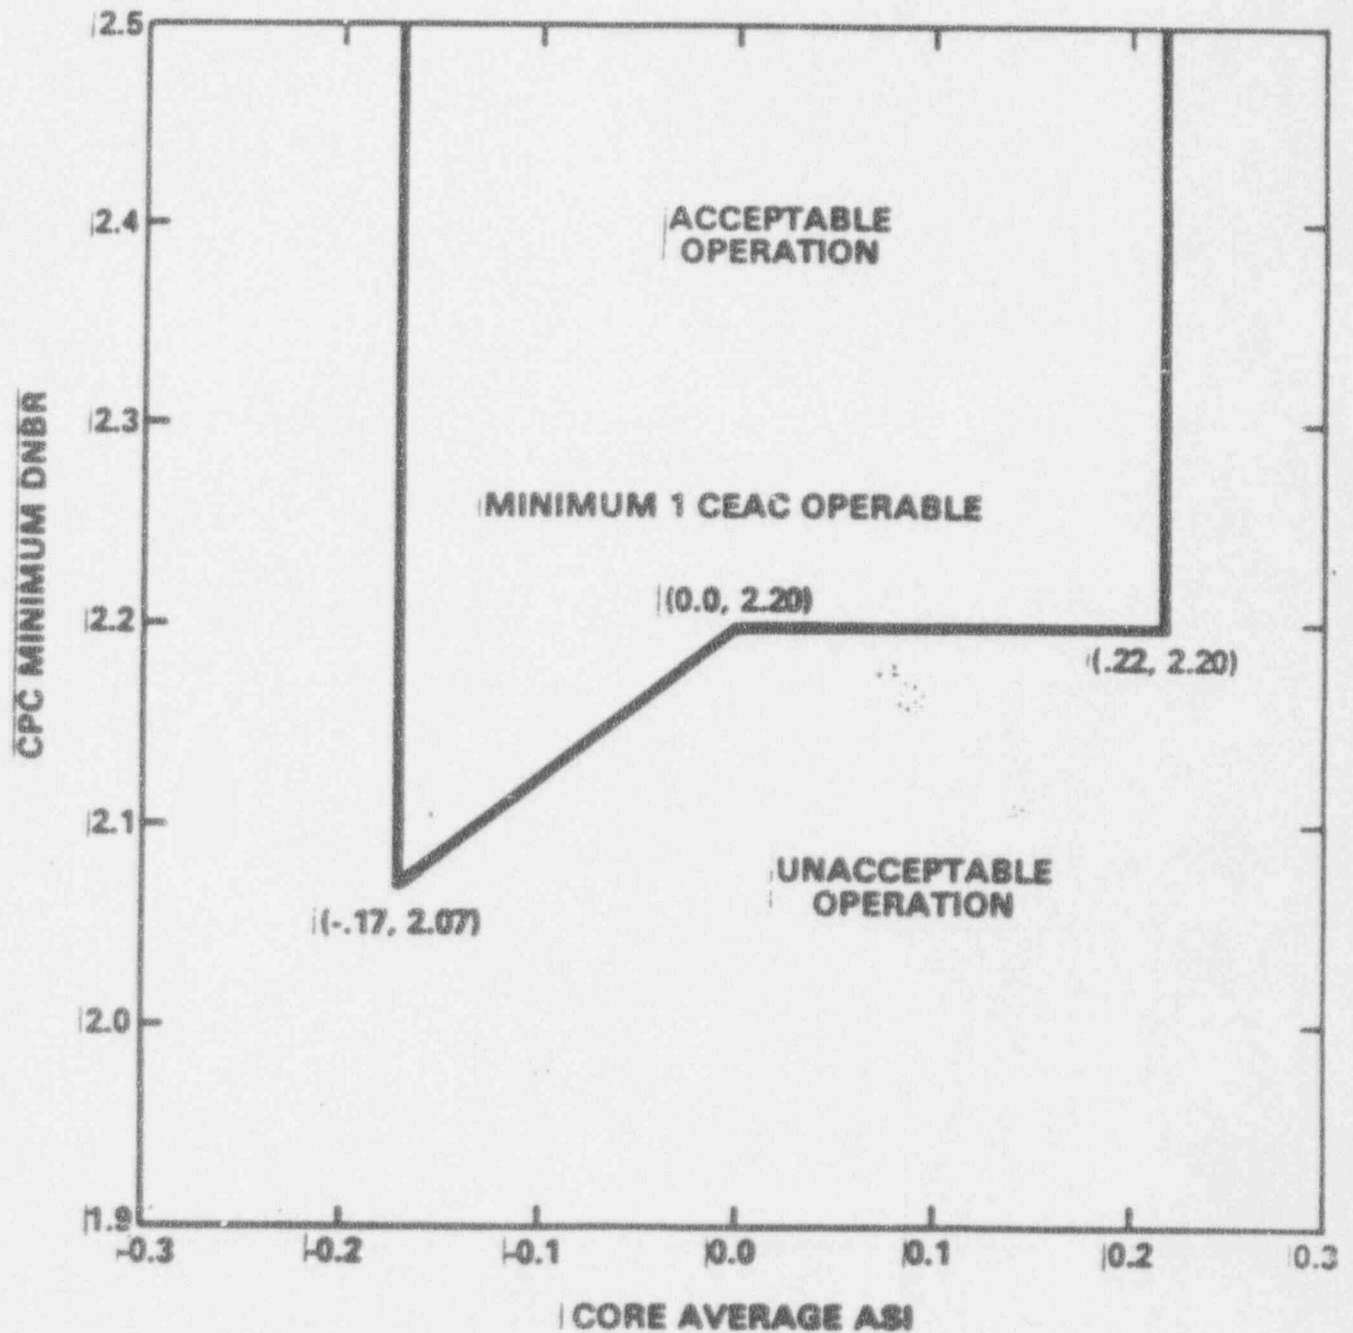

FIGURE 3.2-2
- b. With the DNBR limit not being maintained as indicated by operation outside the region of acceptable operation in Figure 3.2-2 or 3.2-3 with COLSS out of service, either: